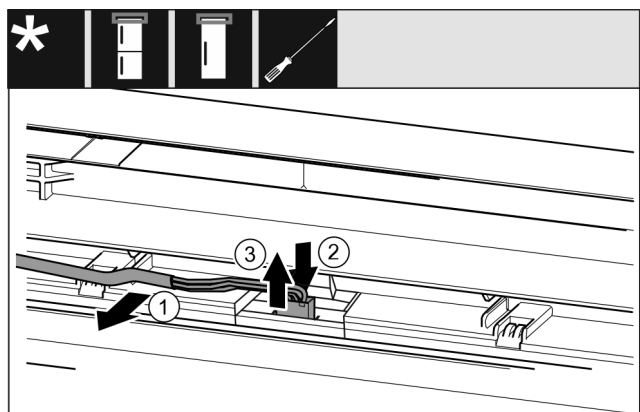

Fig. 22 Fridge/freezer combinations / freezers / refrigerators*
- Release the cable Fig. 22 (1) from the guide in the door carefully.*
- Push the tab Fig. 22 (2) behind the plug backwards.*
- Pull the plug Fig. 22 (3) out upwards carefully.*